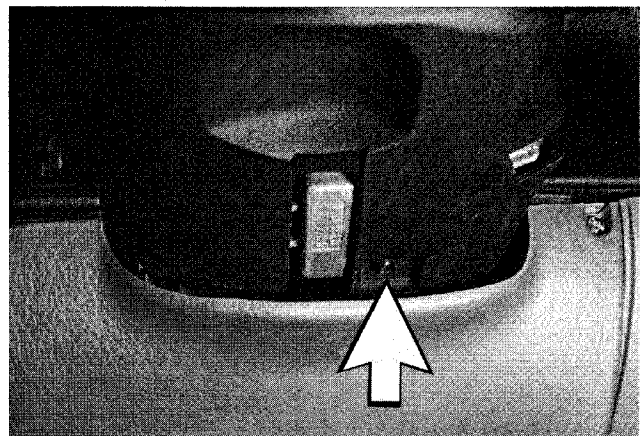

Fig. 6. Lower steering column retaining screw (arrow).
2. Remove lower steering column trim mounting screw and remove lower trim. See Fig. 6.
2. Remove lower steering column trim mounting screw and remove lower trim. Refer to Fig. 6.